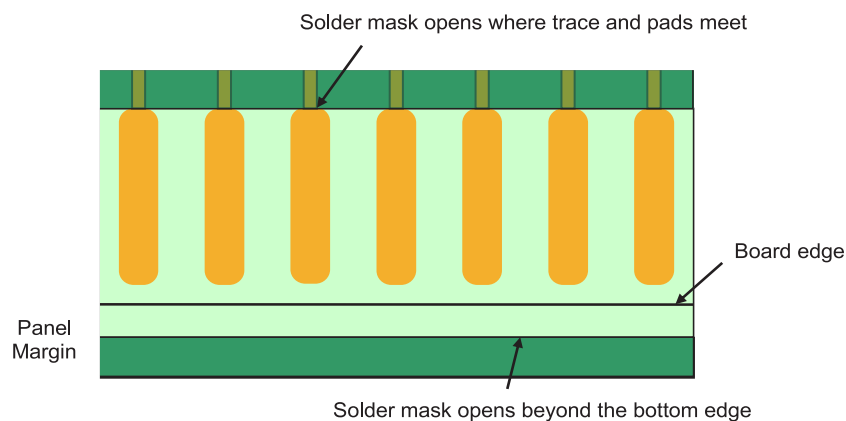

Figure 25: Solder mask opening for a gold-finger.
- [46] The copper pads of gold-finger connectors should open up the solder mask together. The top of the pads (where the trace is connected) should be opened flush with the solder mask material, and the bottom end solder mask opening should close beyond the edge of the board, as shown in figure 25.